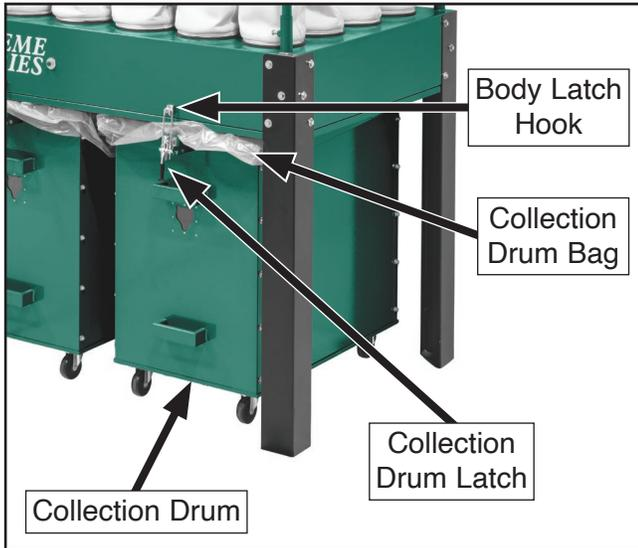

Figure 106. Collection drum components.
- Lift collection drum latch (see **Figure 106**) to release latch from body latch hook, then remove collection drum from under machine.